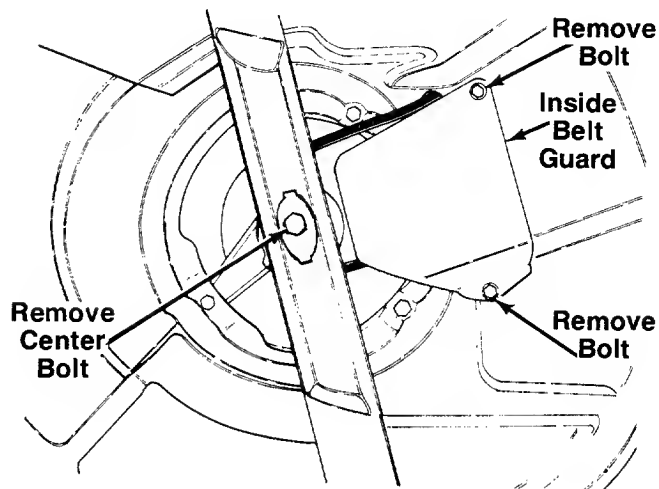

FIGURE 26.
5. Remove the center bolt which secures the blade to the crankshaft. See figure 26. Remove the blade, blade adapter and pulley half. Remove the belt.
6. Remove the inside belt guard by removing two self-tapping screws. A 3/8" wrench is required. See figure 26.